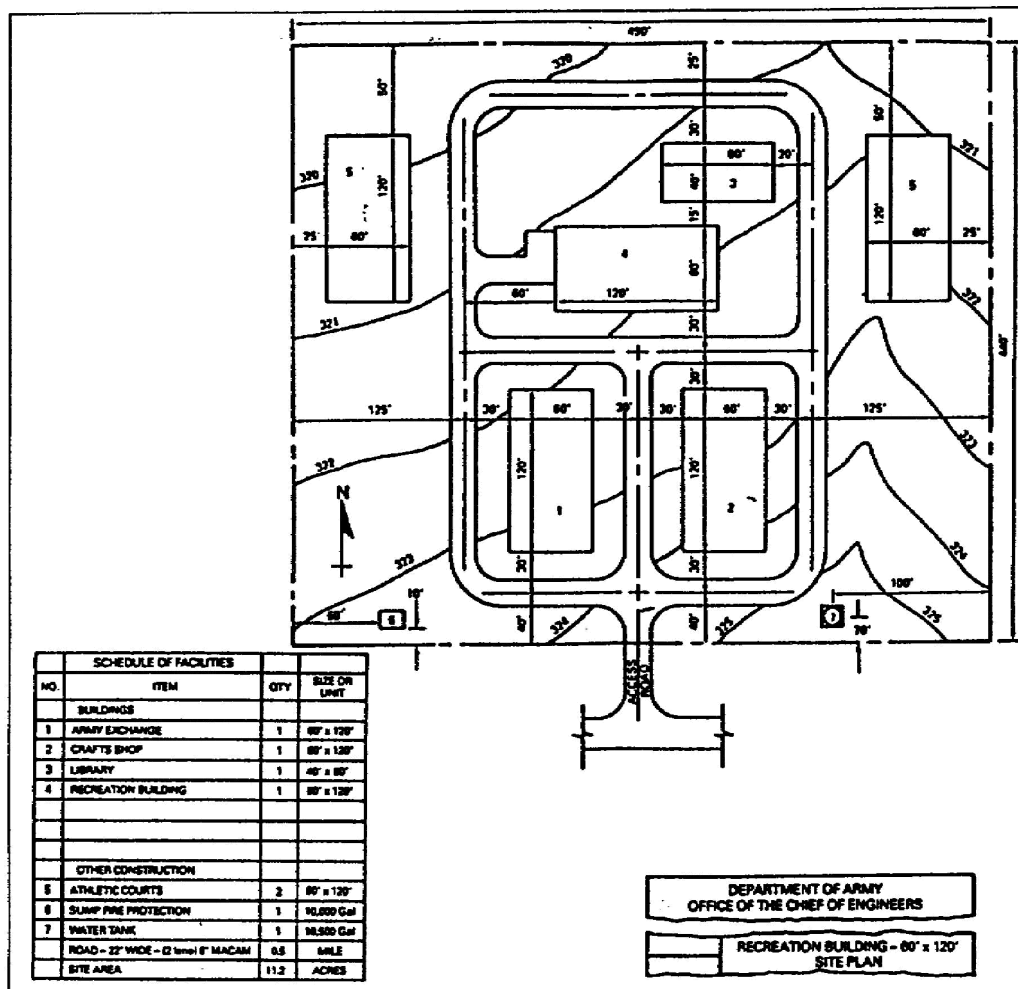

Figure 1-5. Site plan
a. Site Plan. A site plan (also called a *plot plan*) (Figure 1-5) shows the boundaries of the construction site, the location of the building in relation to the boundaries, the ground contour, and the roads and walks. It may also show utility lines such as sewer, gas, and water. This type of plan is drawn from a survey of the area by locating the corners of the building at specific distances from the established reference points.